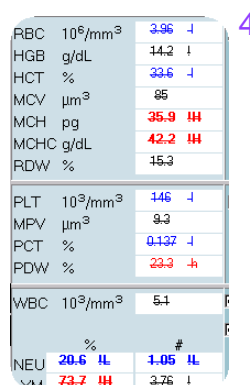

Fig. 4-43 Rejected report
- 4- When a report is rejected, parameters are crossed out (see Fig. 4-43, page 4-58).